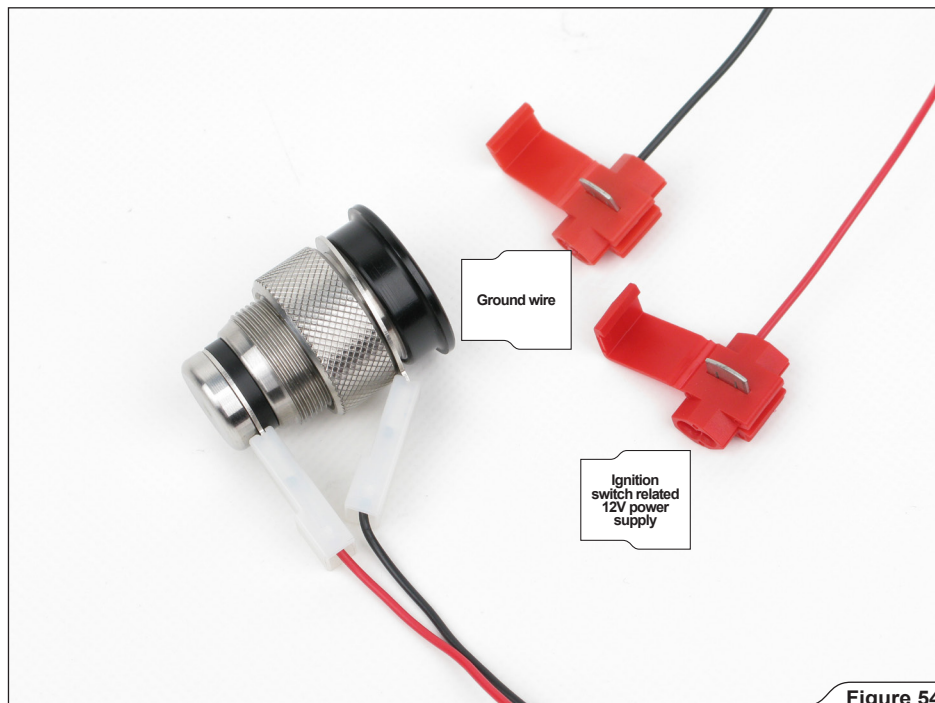

Figure 54
37. Correctly assembled dashboard or additional bracket mounted key fob components (**Figure 54**).